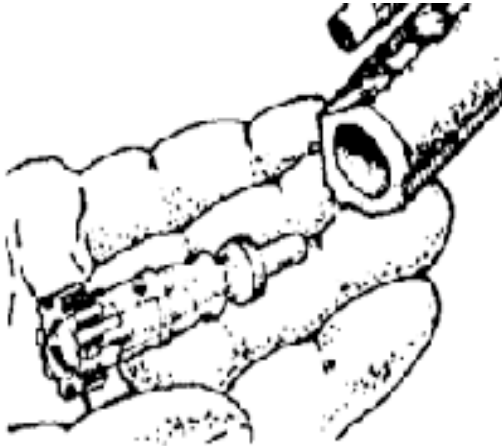

Figure E-16. Removing the bolt.
- n. Pull the bolt assembly from the carrier (figure E-16).